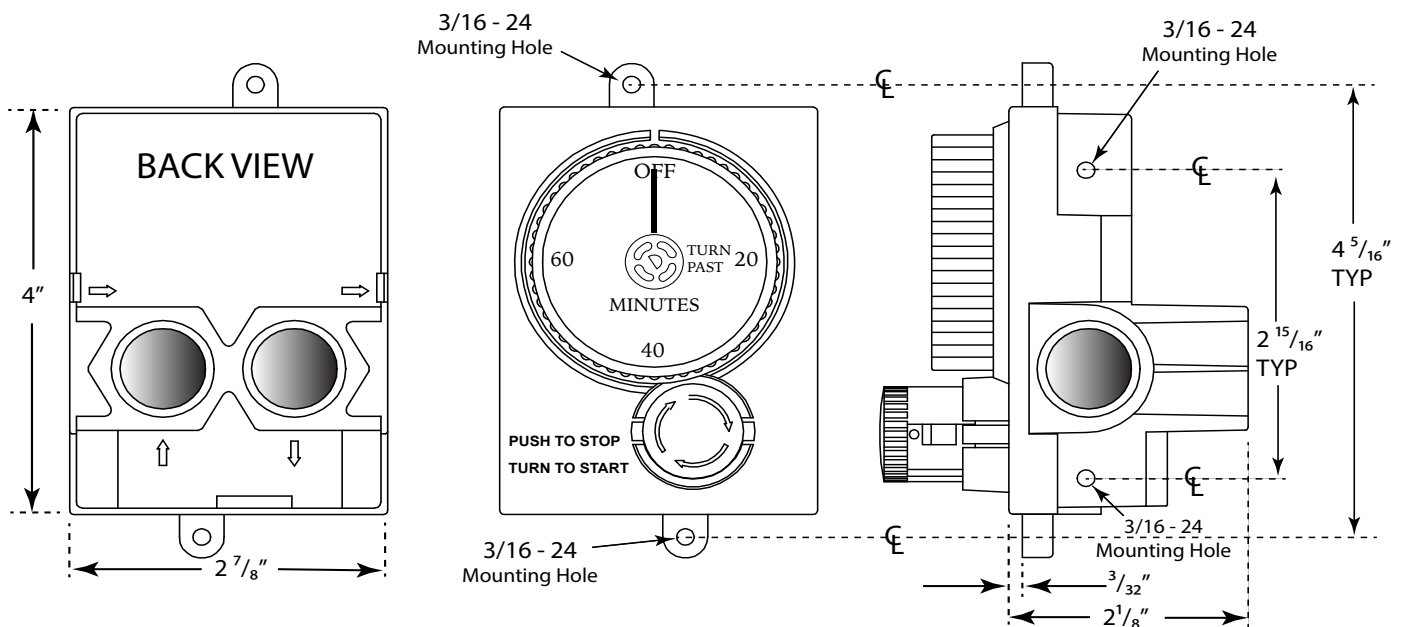

Fig. 1 E-Stop Gas Timer mounting hole locations applicable to both models.
The E-Stop Gas Timer has the ability to be mounted from the side of the body, using the four (4) provided holes (two mounting holes per side) or using the two mounting hole tabs at the top and bottom of the body when facing forward. Each mounting hole uses 3/16 - 24 machine screws to secure it into position. **Note:** We recommend using stainless steel screws for any outdoor applications. See Fig. 1 for details.